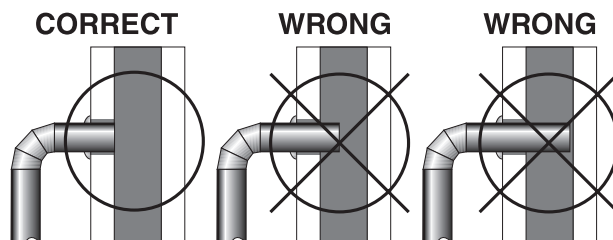

Figure 14 – Stovepipe/Flue Connections
1. The crimped end of the stovepipe fits inside the stove flue collar. Secure with three (3) sheet metal screws. The first section of connector pipe must be single walled to properly attach to the stove collar. Install additional pipe and elbow with the crimped end towards the stove. This will allow any condensation in the flue to run back into the firebox.
4. The pipe cannot extend into the chimney flue (figure 14).
5. Secure pipe/elbow sections with three (3) sheet metal screws at each joint to make the piping rigid.
6. It is recommended that no more than two (2) 90° bends be used in the stovepipe installation. The use of more than two 90° bends may decrease the amount of draw and possibly cause smoke spillage. Where possible, use only corrugated (non adjustable) elbows. These provide a better seal.
2. Install a metal or fire clay (5/8” minimum thickness) thimble. Make sure the thimble is flush with the inner surface of the chimney liner and does not protrude into the flue (see figure 14 on page 9).
4. Install the stovepipe into the thimble as far as possible without extending past the flue lining (see figures 14 & 15 on pages 9 & 10).